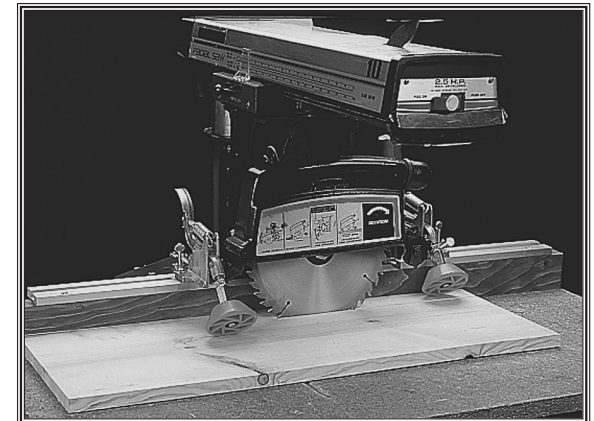

Figure 1. Typical Board Buddy application.
To install your BOARD BUDDIES® see **Figures 1 and 2**, and do these steps:
3. Position the mounting bracket on the auxiliary fence so it does not protrude into the path of the stock. See **Figures 1 and 2**.
4. Position the rollers so they are not closer than 1/2" (12.7 mm) to the front and rear of the saw blade. See **Figure 1**.
BOARD BUDDIES® help prevent kickback by maintaining pressure against the stock with counter clockwise rotating rollers. See **Figures 1 and 2**.